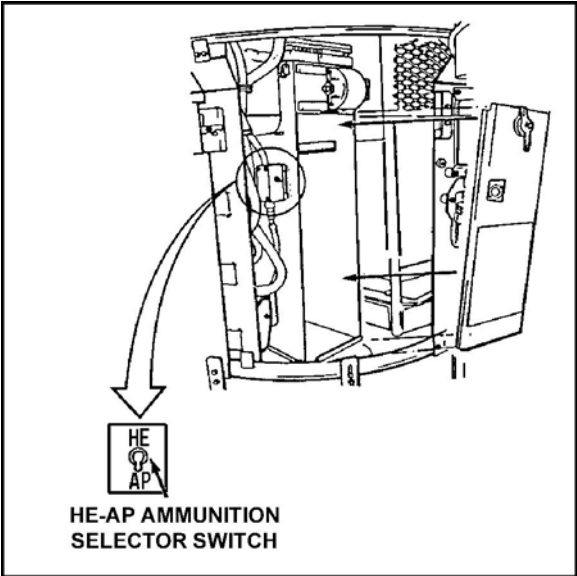

Figure 6. HE-AP ammunition selector switch.
- 8. Move the HE-AP ammunition selector switch to the correct position for the ammunition loaded (Figure 6).